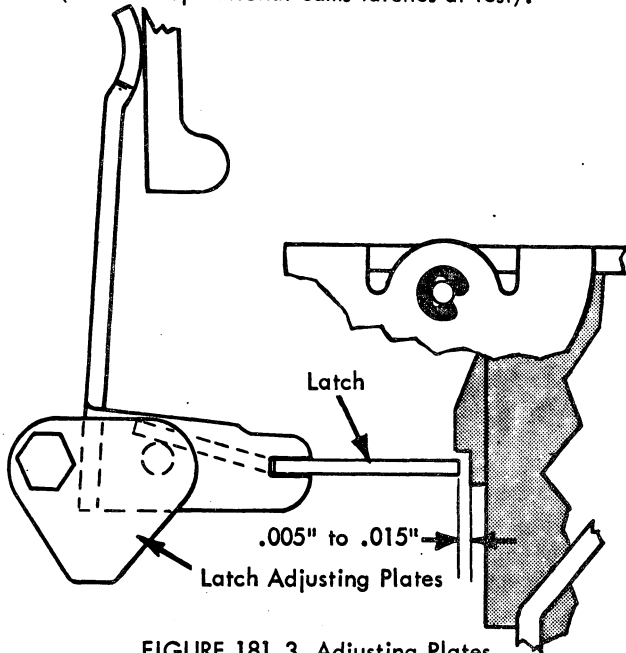

FIGURE 181.3 Adjusting Plates
3. **Adjusting Plates (Fig. 181.3)** - The actuator latch adjusting plates should be adjusted so that the actuator latches clear the rise on the actuator by .005" to .015" (With the operational cams latches at rest).